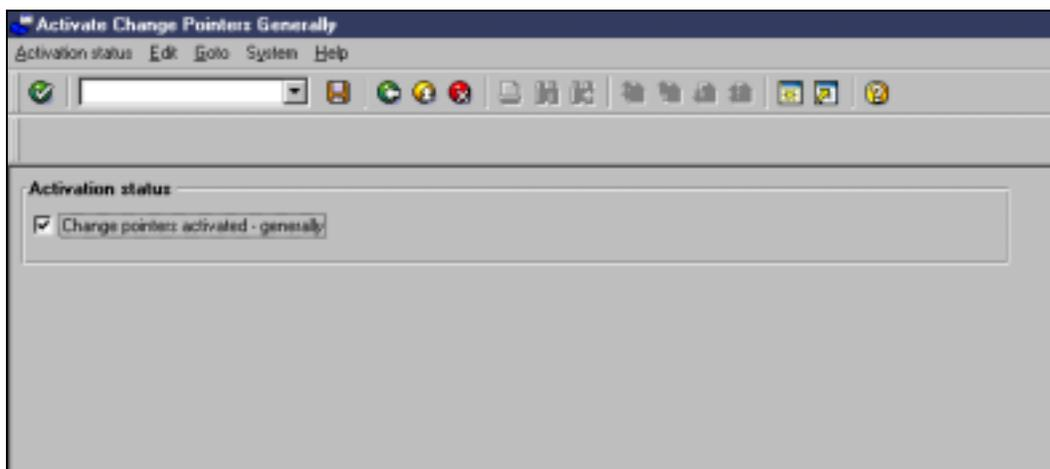

Figure 64: Enabling change pointers
2. Select the check box and save as shown in Figure 64.